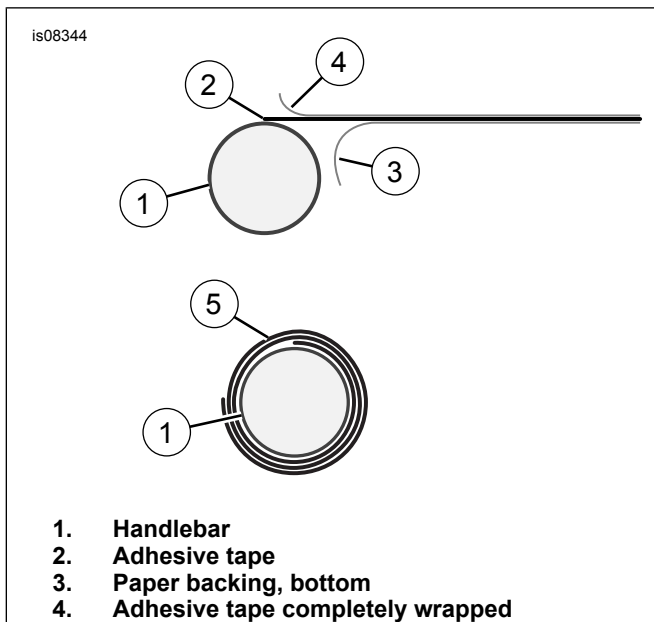

Figure 4. Handlebar and Adhesive Tape
- See Figure 4. Remove the paper from the bottom side (3) of the adhesive tape (2).
- See Figure 4. Begin to apply the adhesive tape to the handlebar. Do not wrinkle the adhesive tape. Remove the top side of the paper (4) to prevent overlapping the paper while wrapping the handlebar. Fully wrap the adhesive tape around the handlebar.